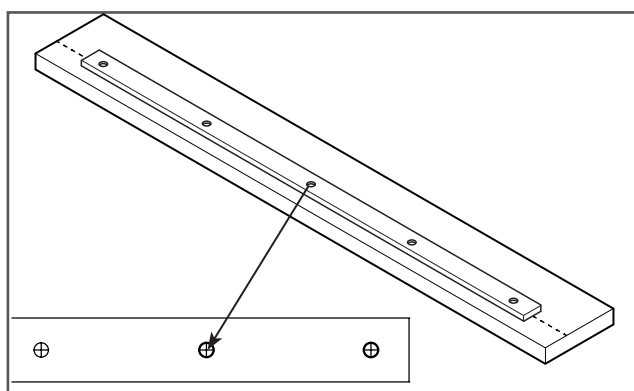

Figure 4
5. Lay the track (K.) on top of the header, centering it with the line drawn on the header. Ensure the track is 2" from either end of the header. Using a pencil, mark the hole positions in the track onto the header (Figure 4). Set the track aside.